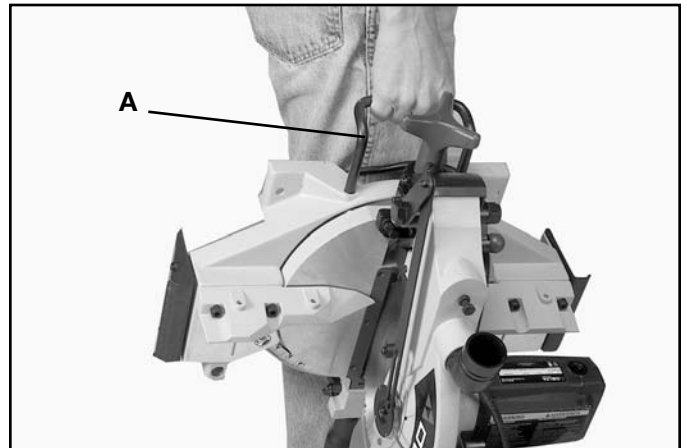

Fig. 20
The support bar (A) also acts as a carrying handle, as shown in Fig. 20, when transporting the saw.